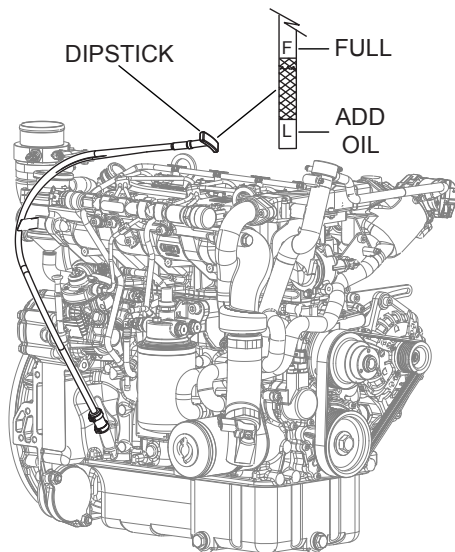

Figure 14. Engine Oil Check And Fill
2. Pull the engine oil dipstick from its holder (Figure 14).